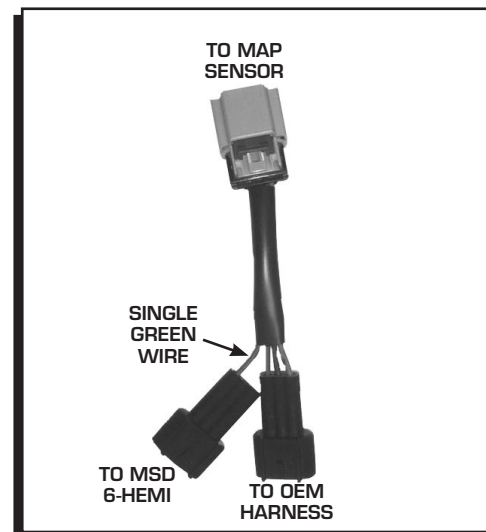

Figure 4 Map Sensor Harness.
3. Connect the male connector with the three wires to the OEM harness (Figure 4).